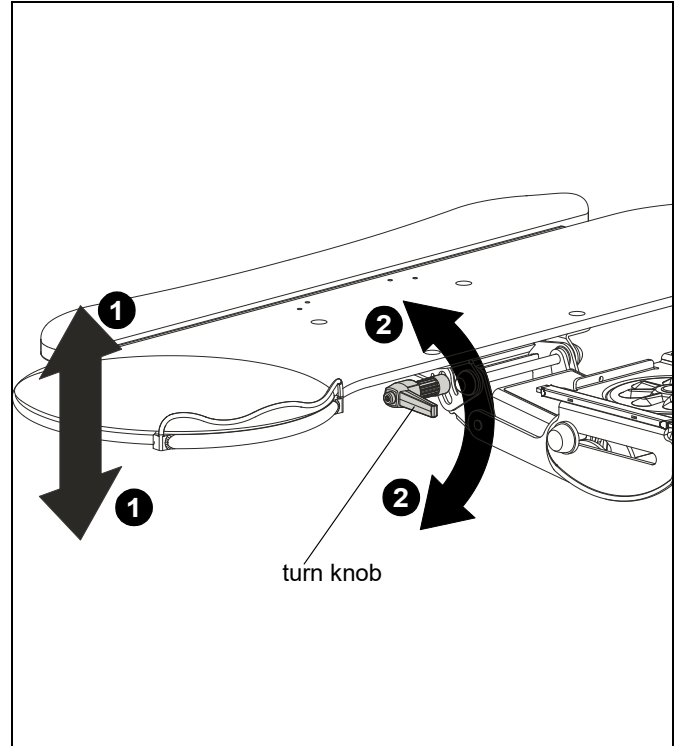

Figure 7
- Lift mechanism arm up or down until desired height is reached. (See Figure 7)
- Turn tilt knob to adjust keyboard tray tilt. (See Figure 7)